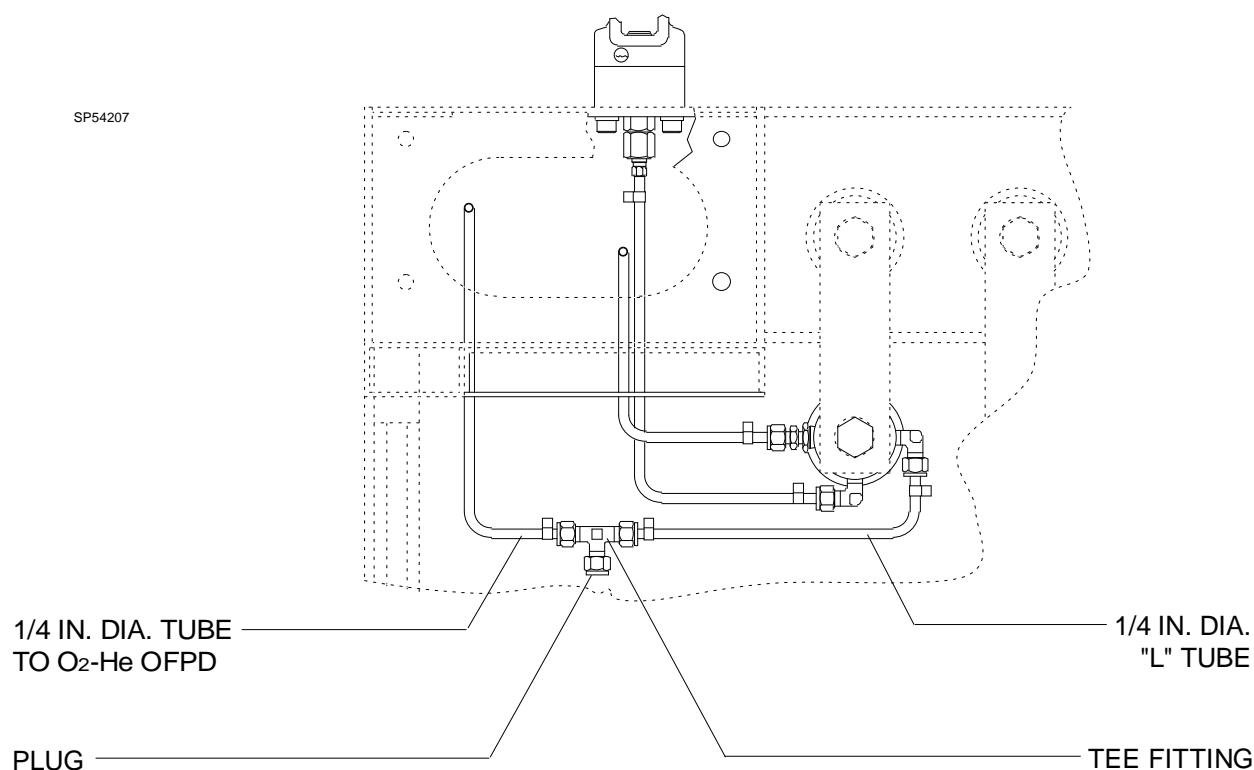

Figure 9: O₂-He CYLINDER REGULATOR L.P. CONNECTIONS
44. Connect a ¼ in.dia.(P/N 4110837-015) "L" tube to the O₂-He cylinder pressure regulator as shown in Figure 9. Install a "O₂-He" label on each end of this tube.
46. Connect the short end of a ¼ in.dia. (P/N 4109512) pre-bent tube to the remaining port on the tee fitting as shown in Figure 9. Install a "O₂-He" label on each end of this tube.